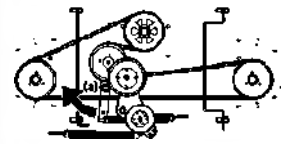

Figure 4-21
5. Using a 1/2" drive insert the end into the 1/2" square opening in the deck idler assembly (a) and rotate the deck idler assembly (a) clockwise. See Figure 4-21. While holding the deck idler assembly (a), loosen the deck belt from the pulley and slide the belt away from the pulley.
6. Route the new belt as shown in Figure 4-21. Then reinstall the deck and PTO belt.